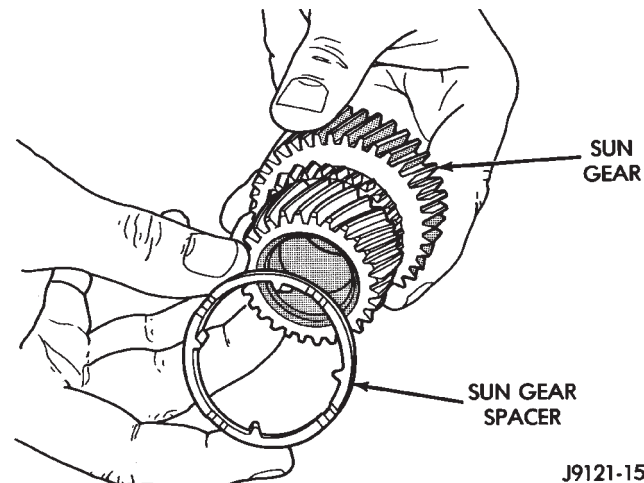

Fig. 152 Installing Spacer On Sun Gear
(7) Install spacer on sun gear (Fig. 152).